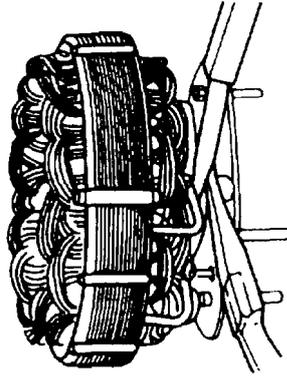

Figure 301 Reconnecting the Stator to Diode Holder
- (1) Position the diode holder on the stator coil assembly and solder each connection, ensuring the lead wires are held by long nose pliers to prevent the heat damaging the diodes (Figure 301). When using a soldering iron to connect the diodes to the stator coil always hold the lead wire with long nose pliers to act as a heat sink and prevent the diodes from overheating and malfunctioning.